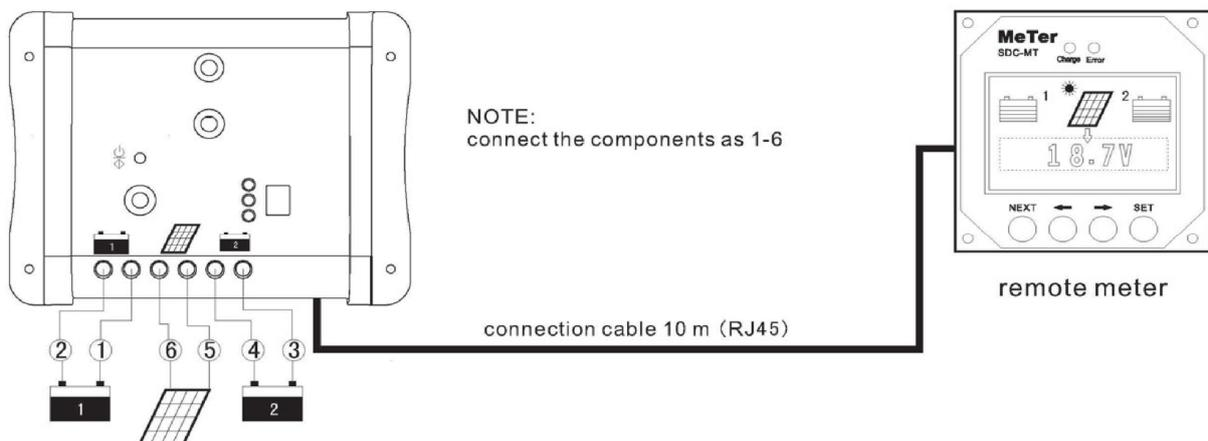

Fig 1. Diagram of controller and monitor connection
(1) Mount the controller on a rigid wall, preferably vertically, leaving a free space of at least 10 cm on each side of the controller to ensure adequate heat dissipation. Fix the controller with 4 pcs. of screws / bolts appropriate for the conditions (see figure below - spacing of the mounting holes).
(2) The controller should be installed in a dry, cool place which is protected from the impact of the sun, aggressive and flammable gases
(3) Check that the rated voltage of the battery and PV panels are within the appropriate limits.
(4) Disconnect the fuse overcurrent protection of PV panels and battery (if any are used – it is recommended to use them) and / or PV system from the controller
(5) Connect the cables from the battery to the controller and cables from the PV panels in the order shown in the diagram (Fig 1)